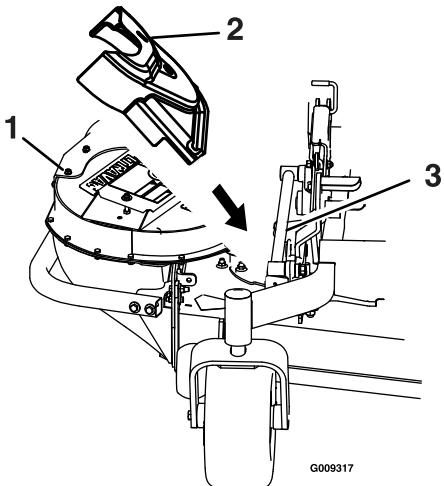

Figure 19
3. Position the belt cover at an angle and slide it under the mower frame (see Figure 19).